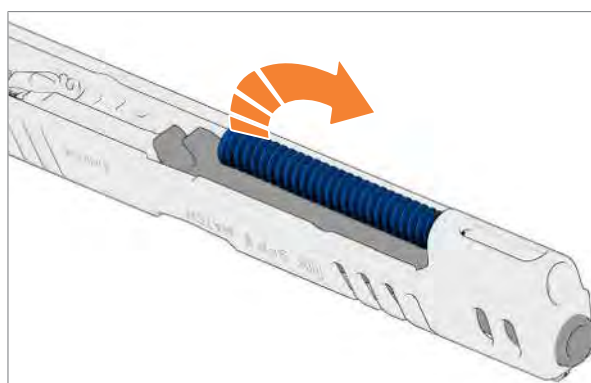

Fig. 59: Removing the recoil spring
6. Remove recoil spring from slide (Fig. 59).